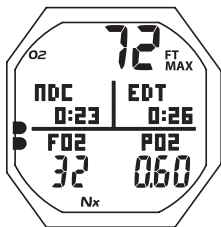

Fig. 84 - SAFETY STOP
**Safety Stop Alt 1**, information includes (Fig. 84) -